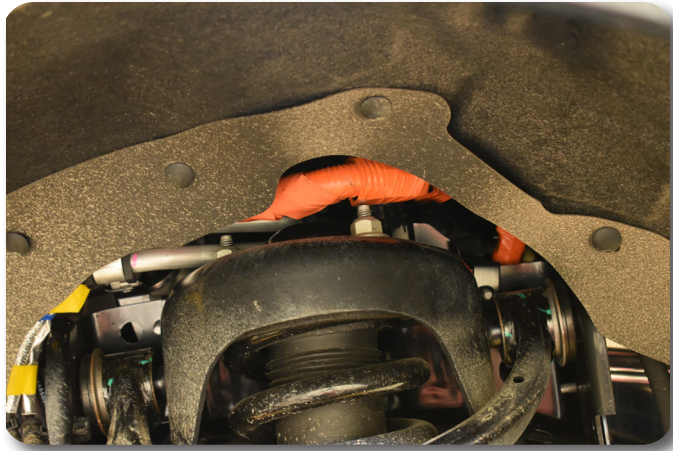

Figure 8
13. Loosen but do not remove the three strut assembly mounting nuts at the frame **Figure 8**. Do not loosen the middle strut nut.